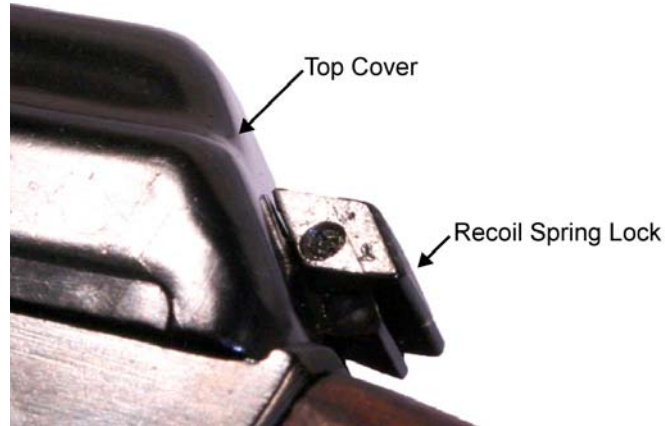

Figure 5. Two-Piece Recoil Spring Lock.
- b. Some models have a two-piece recoil spring lock that needs to be pushed down, then in to disengage the recoil spring lock from the hole in the top cover. Refer to Figure 5.